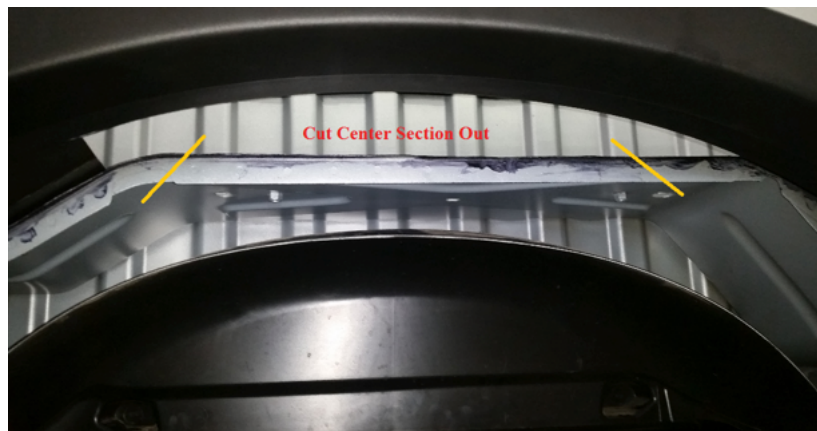

Figure 6
- C. If your truck is equipped with a Ram Box Bed you will need to cut a section out of the pinch weld (fig. 6).